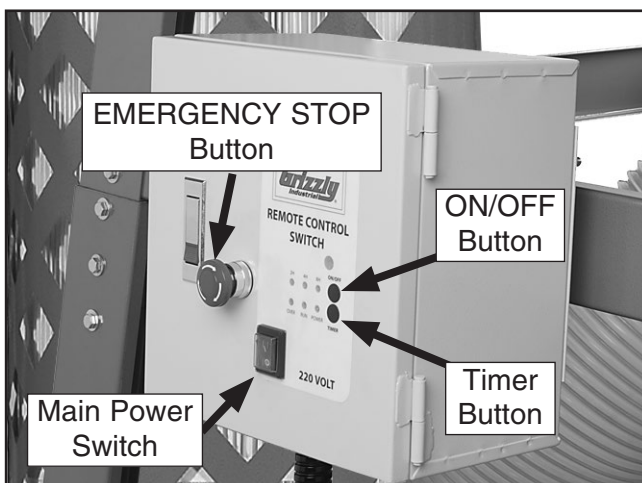

Figure 56. Control box (Model G0638 shown).
4. Flip the main power switch at the lower left hand corner of the control box (see **Figures 56**) to (I) from (O).